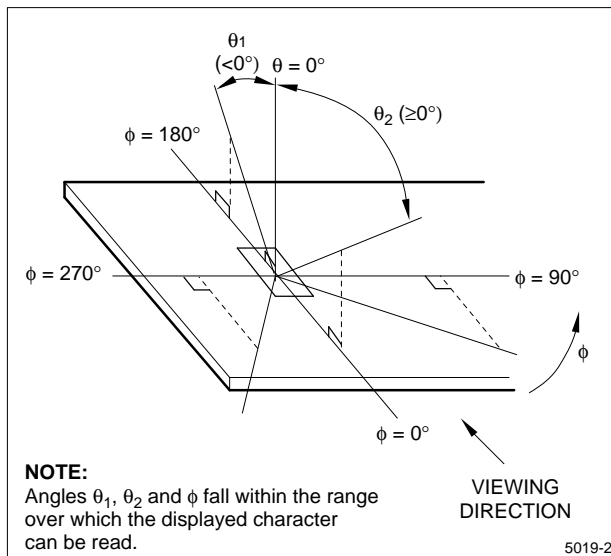

Figure 3. Definition of Viewing Angle
- The viewing angle range is defined as shown in Figure 3.